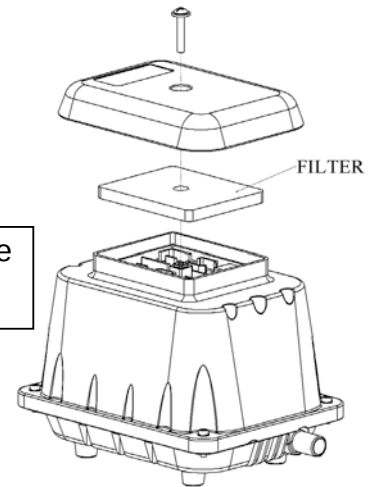

Figure 1
- Remove the screw on top. (As shown in Figure1)